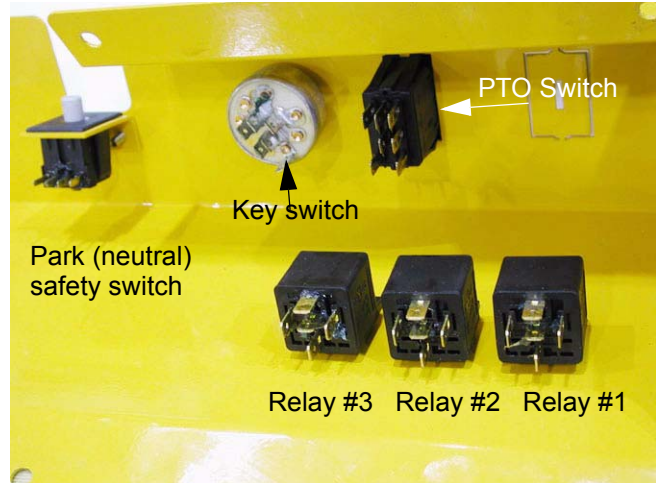

Figure 10.10
10.10. The three relays are positioned under the right side control console. See Figure 10.10.